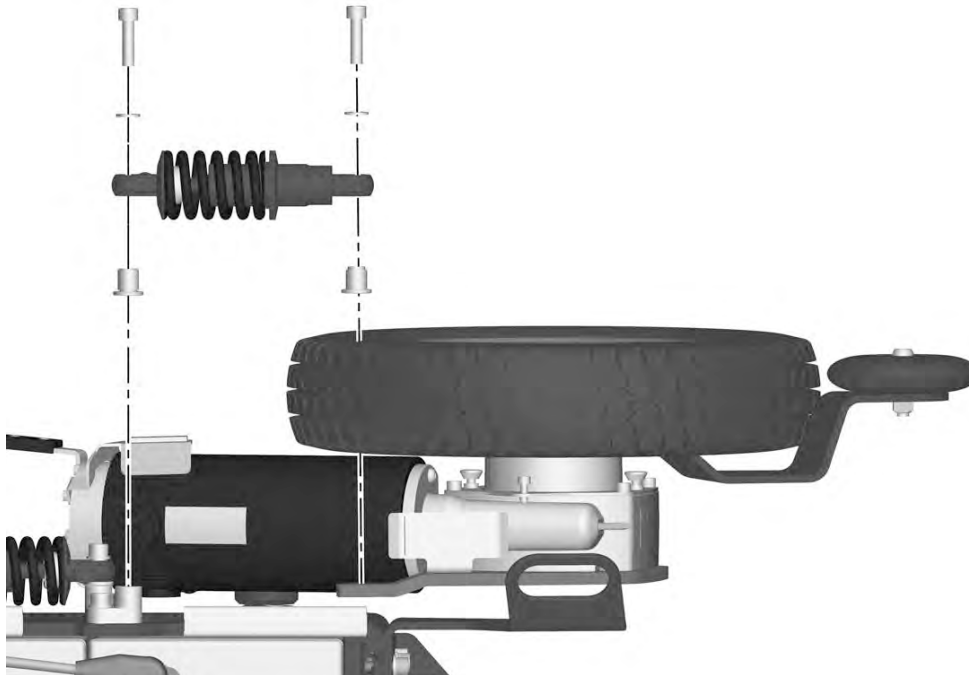

Figure 53. Fitting/removing the front shock absorber.
5. Remove the shock absorber, it's fitted with two screws and washers. See fig. 53.
1. Fit the shock absorber using the two screws and washers. Tighten the screws using a torque wrench. **Tightening torque: 24 Nm / 17.7 Ft/lbs** See fig. 53.
5. Remove the shock absorber, it's fitted with two screws and washers and a nut. See fig. 53 *Fitting/removing the front shock absorber..*
Tightening torque: 24 Nm / 17.7 Ft/lbs See fig. 53.